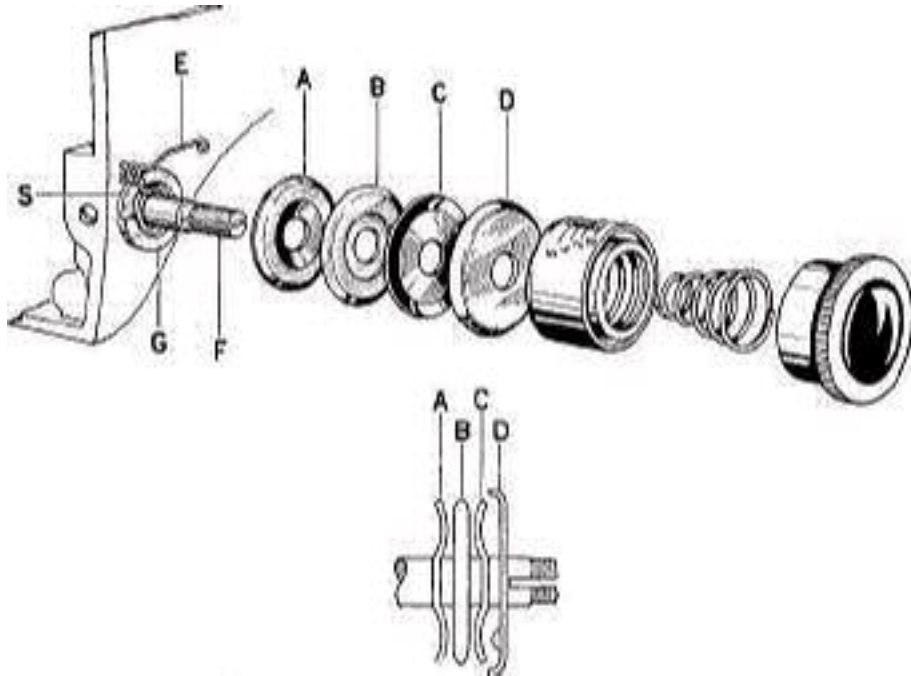

Fig. 66
To function properly, the tension discs A, B, C, D (see Fig. 66) must be kept very clean. It is not advisable to clean dirty tension discs quickly by simply drawing a rag between them. Such a procedure may shift the dirt to some hidden spot in the tension mechanism and cause the tension discs to get out of contact with each other. This occurrence, of course, will disturb the tension of the upper thread and make sewing impossible.
To clean the upper thread tension, proceed as follows: unscrew the thread tension knob first and then take off successively all other parts of this mechanism (Fig. 66). All these parts shall be cleaned thoroughly in a pan filled with cleaning fluid, and then be wiped dry. Every part must be examined thoroughly with regard to possible defects. The tension discs must not have rust spots on their contact faces, or deep grooves worn into them by the thread.
*Note:* To clean the upper tension mechanism, it is not necessary to take it off completely; it is sufficient to unscrew the knurled knob and remove all parts that are assembled on the split stud " F ", as shown in Fig. 66.
While re-assembling these parts, make certain that check spring "E" is set in notch " S " of the bushing " G "; also make certain that the tension discs A, B, C and D are placed in the right order and their faces are set as shown in Fig. 66.
This check spring " E " (Fig. 66) serves two purposes, namely: